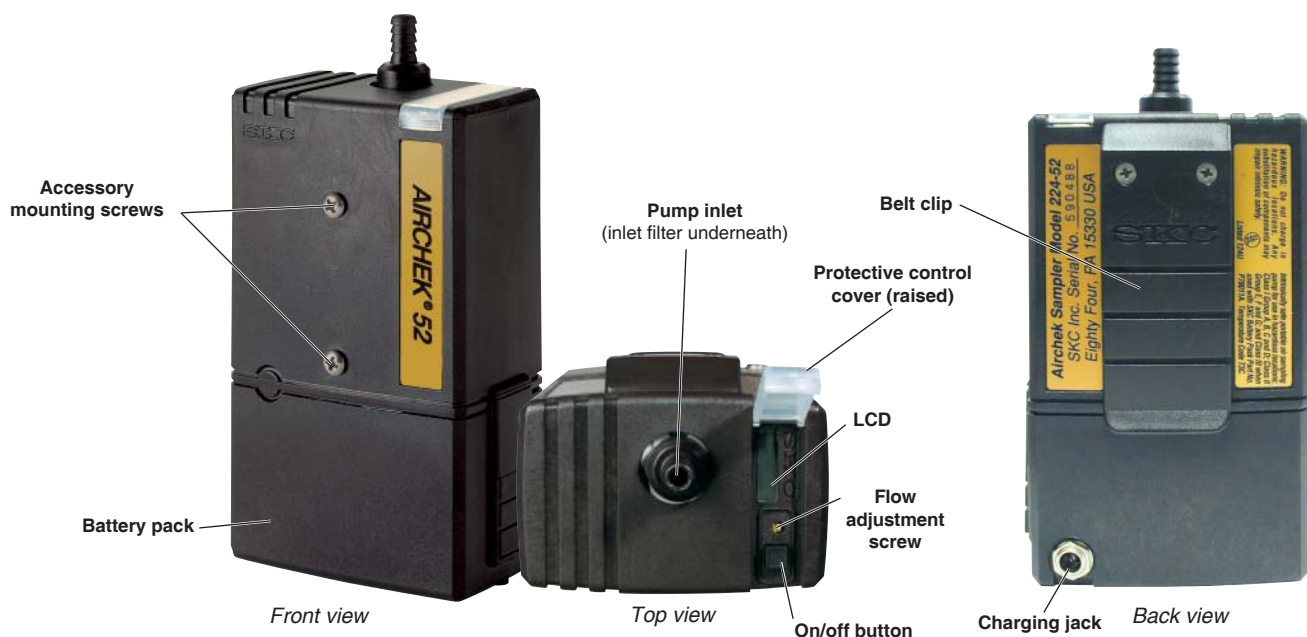

Figure 1. AirChek 52 Sample Pump
The AirChek 52 Sample Pump (Figure 1) is designed for rugged industrial use at flows from 5 to 3000 ml/min. Ideal for on-worker applications, use the AirChek 52 for short-term or full-shift sampling with sorbent tubes, impingers, size-selective samplers, or filter cassettes.
3. Insert the charging plug end of the cable into the jack on the back of the pump's battery pack (Figure 1).
4. Using a screwdriver, set the pump flow rate by turning the flow adjustment screw on top of the pump (Figure 1), **clockwise** to increase or **counterclockwise** to decrease flow, until the calibrator indicates the method-specified flow rate. Take a minimum of three readings and record the average flow rate, as per OSHA/NIOSH instructions.
- b. For **sampling with an impinger**, mount the single or dual impinger and trap (SKC Cat. No. 225-20-01 or 225-20-02) to the face of the sampler using the accessory mounting screws (Figure 1) or place them in a holster at the worker's waist.
3. Set the pump flow rate to 1.5 L/min. Using a small screwdriver, turn the flow adjustment screw on top of the pump (Figure 1), **clockwise** to increase flow or **counterclockwise** to decrease flow, until the calibrator indicates 1.5 L/min.